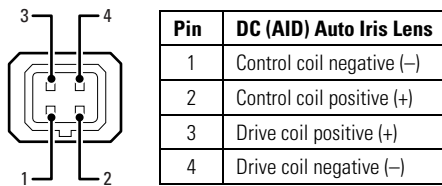

Figure 2. Lens Pin Connections
- c. Connect the auto iris lens to the 4-pin connector located on the side of the camera. Refer to Figure 2 for pin connections and iris drive connector information.